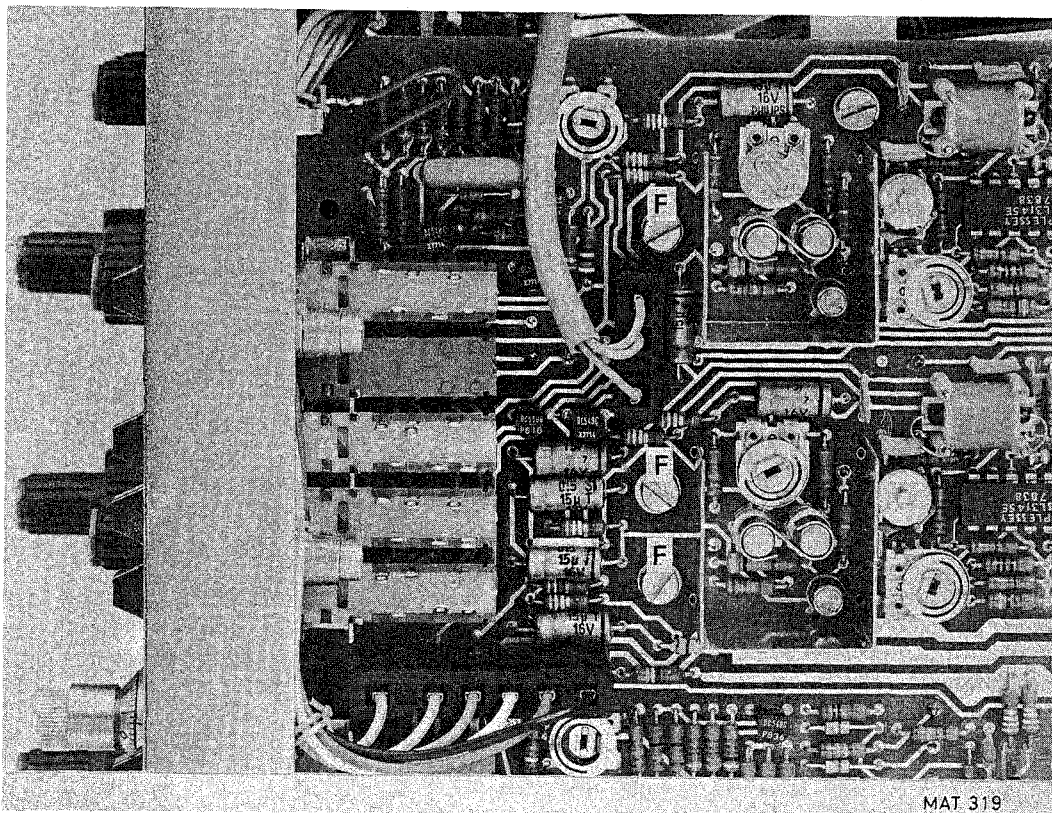

Fig. 6.8. Removing screws F
- Remove the three screws F (Fig. 6.8.).